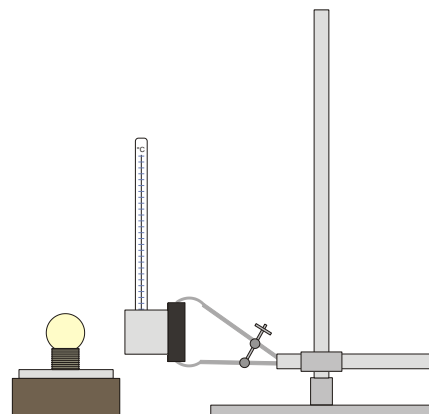

Fig. 2 Measuring the radiation power of a filament lamp
- Remove the cardboard tube and support the aluminium cylinder with one end-plate using a stand and clamp (Fig. 2).